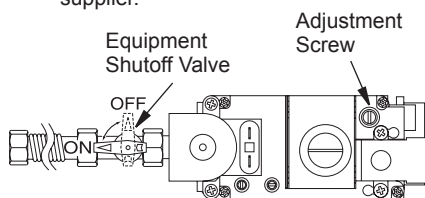

Figure 34 - Turning Equipment Shutoff Valve to the OFF Position
6. Turn equipment shutoff valve clockwise  to the OFF position (see Figure 34).
7. Wait five (5) minutes to clear out any gas. Then smell for gas, including near the floor. If you smell gas, STOP! Follow "B" in the safety information, column 1. If you don't smell gas, go to the next step.